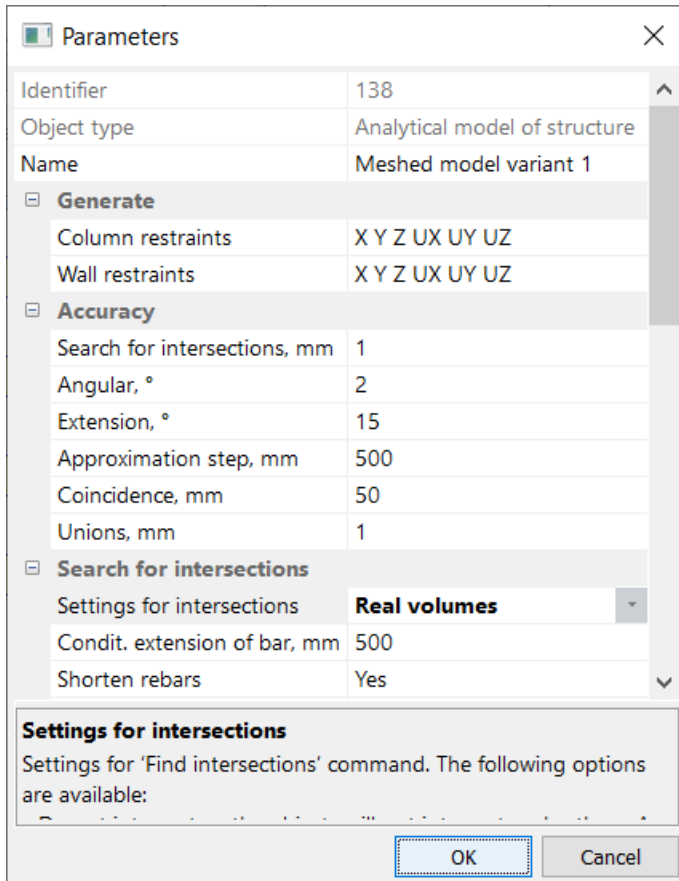

Figure 23.29. Parameters dialog box
- ⇒ In the **Parameters** dialog box (see Fig. 23.29), in the **Settings for intersections** row, select the **Real volumes** from the drop-down list.